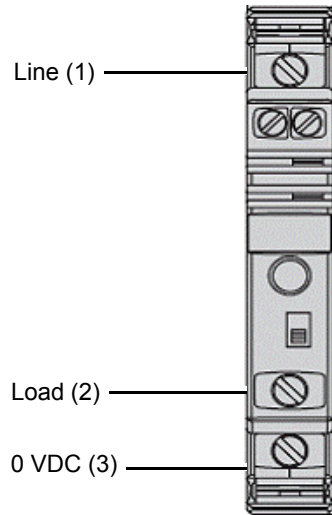

Figure 4: Circuit Breaker Connections
- Install the other end of the loose wire supplied with the kit to the 0 V DC connection on the circuit breaker (Figure 4).
- Use Figures 4, 5, and 6 to complete wiring to the new circuit breaker.